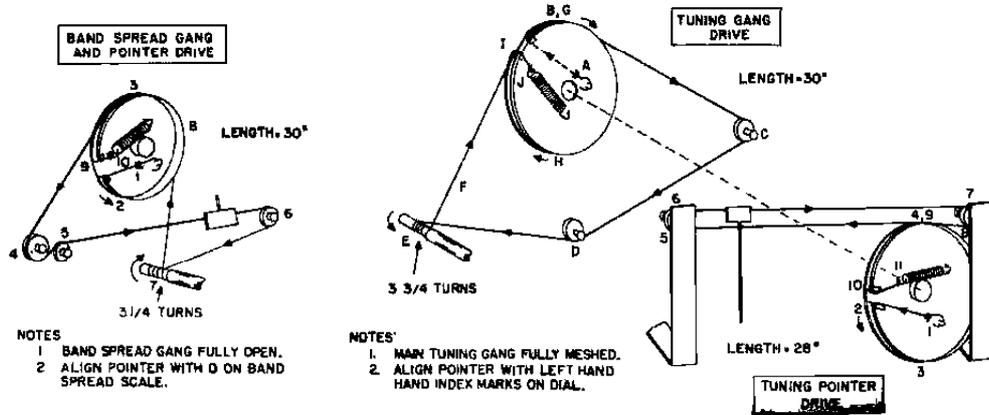

FIG. 3 DIAL CORD STRINGING DIAGRAMS
RESTRINGING DIAL CORD - The dial drive system of the S-72 consists of three separate string drives (1) **BAND SPREAD** gang and pointer drive (2) **TUNING** gang drive and (3) **TUNING** pointer drive. Refer to Fig. 3 for the dial stringing diagrams.